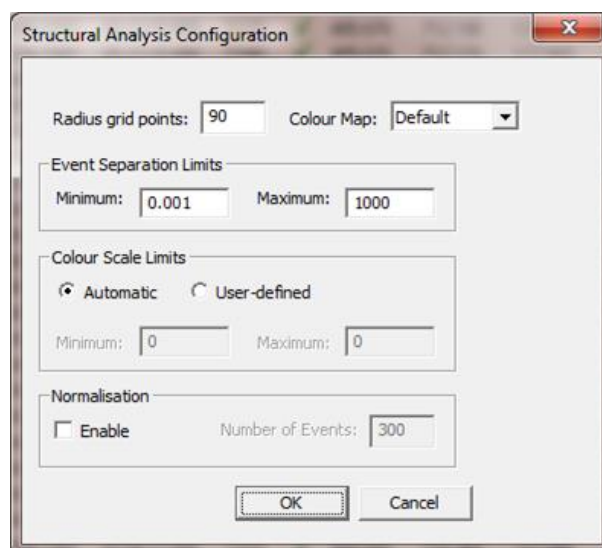

Figure 15-4: Structural Analysis Configuration Menu
1. The following variables can be set in the Structural analysis confirmation menu shown in Figure 15-4: